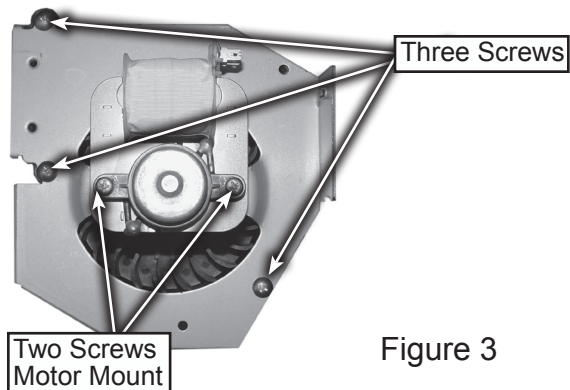

Figure 3
8. Remove three screws that attach the fan plenum to the fan motor assembly, see figure 3.